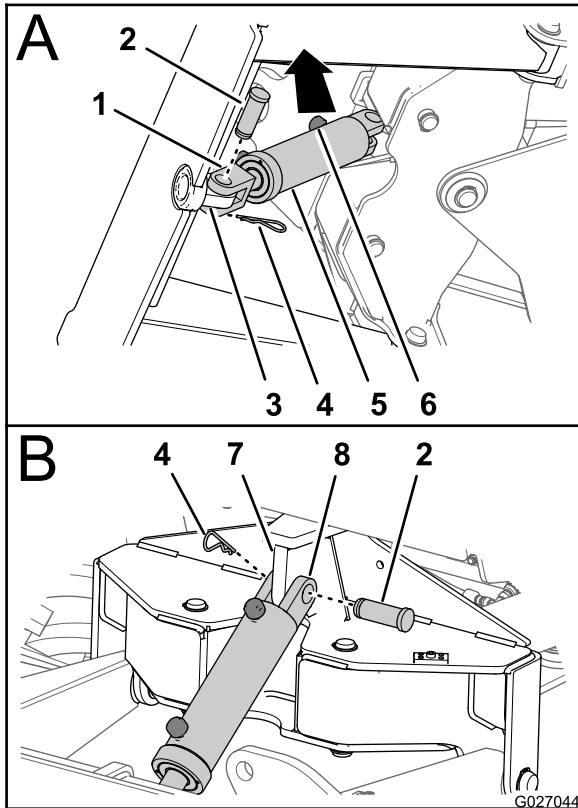

Figure 32
1. Align the holes in the rod fitting of the lift cylinder with the hole in the mounting lug for the lift-arm assembly as shown in A of Figure 32.
2. Secure the rod fitting to the lug with a clevis pin (1-1/4 x 4-7/16 inch) and a hairpin (Figure 32).
3. Align the holes in the mounting fitting at the fixed end of the lift cylinder with the cylinder lug of the pivot frame as shown in B of Figure 32.
4. Secure the cylinder to the lug with a clevis pin (1-1/4 x 4-7/16 inch) and a hairpin (Figure 32).